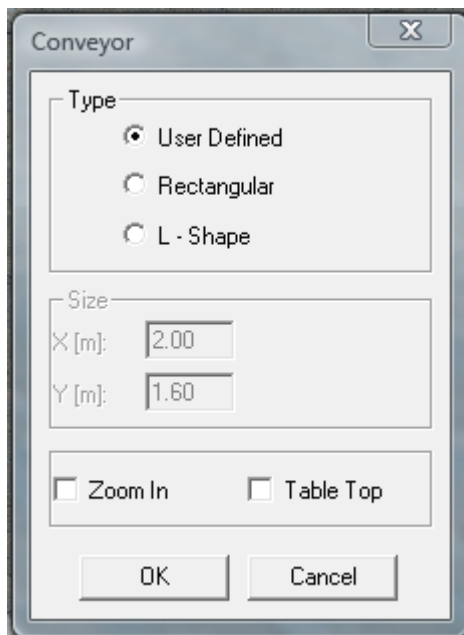

Figure 8-11: Conveyor Dialog Box
2. From the General tree, select **Conveyor** and then click **OK**. The Conveyor dialog box is displayed, as shown in Figure 8-11: Conveyor Dialog Box.
2. From the **General** tree, select **Conveyor** and then click **OK**. The Conveyor dialog box is displayed, as shown in Figure 8-11: Conveyor Dialog Box.